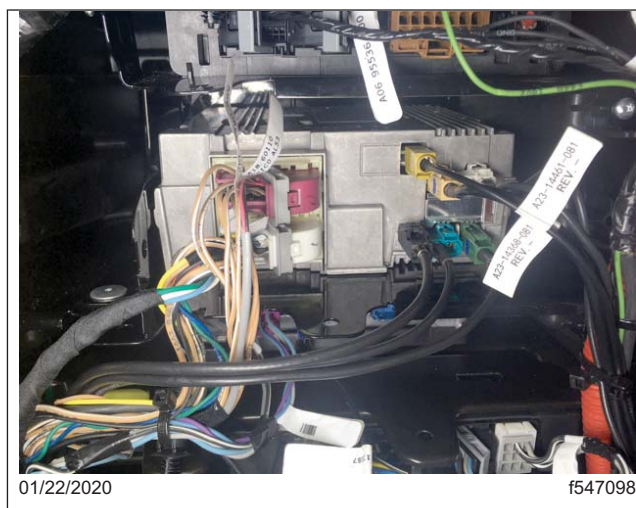

Fig. 16, Connectors of Connect 5 ECU
4. Identify and disconnect the connectors from the Connect 5 ECU (ICC5). See Fig. 16.
3. Install the Connect 5 ECU (ICC5) into the electronics bay by pressing it firmly towards the back of the bay and inserting the ECU tabs into the forward mounting slots. See Fig. 16